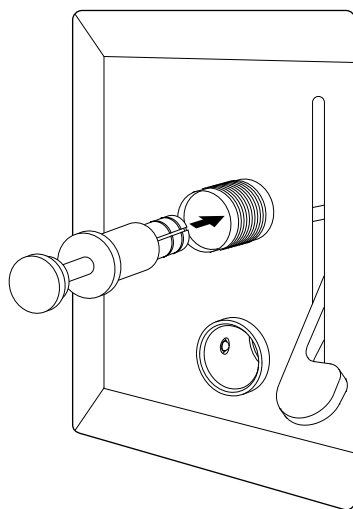

Figure 3-41. Inlet valve seal tool inserted in the inlet valve
5. Insert the tool straight into the inlet valve. See Figure 3-41.